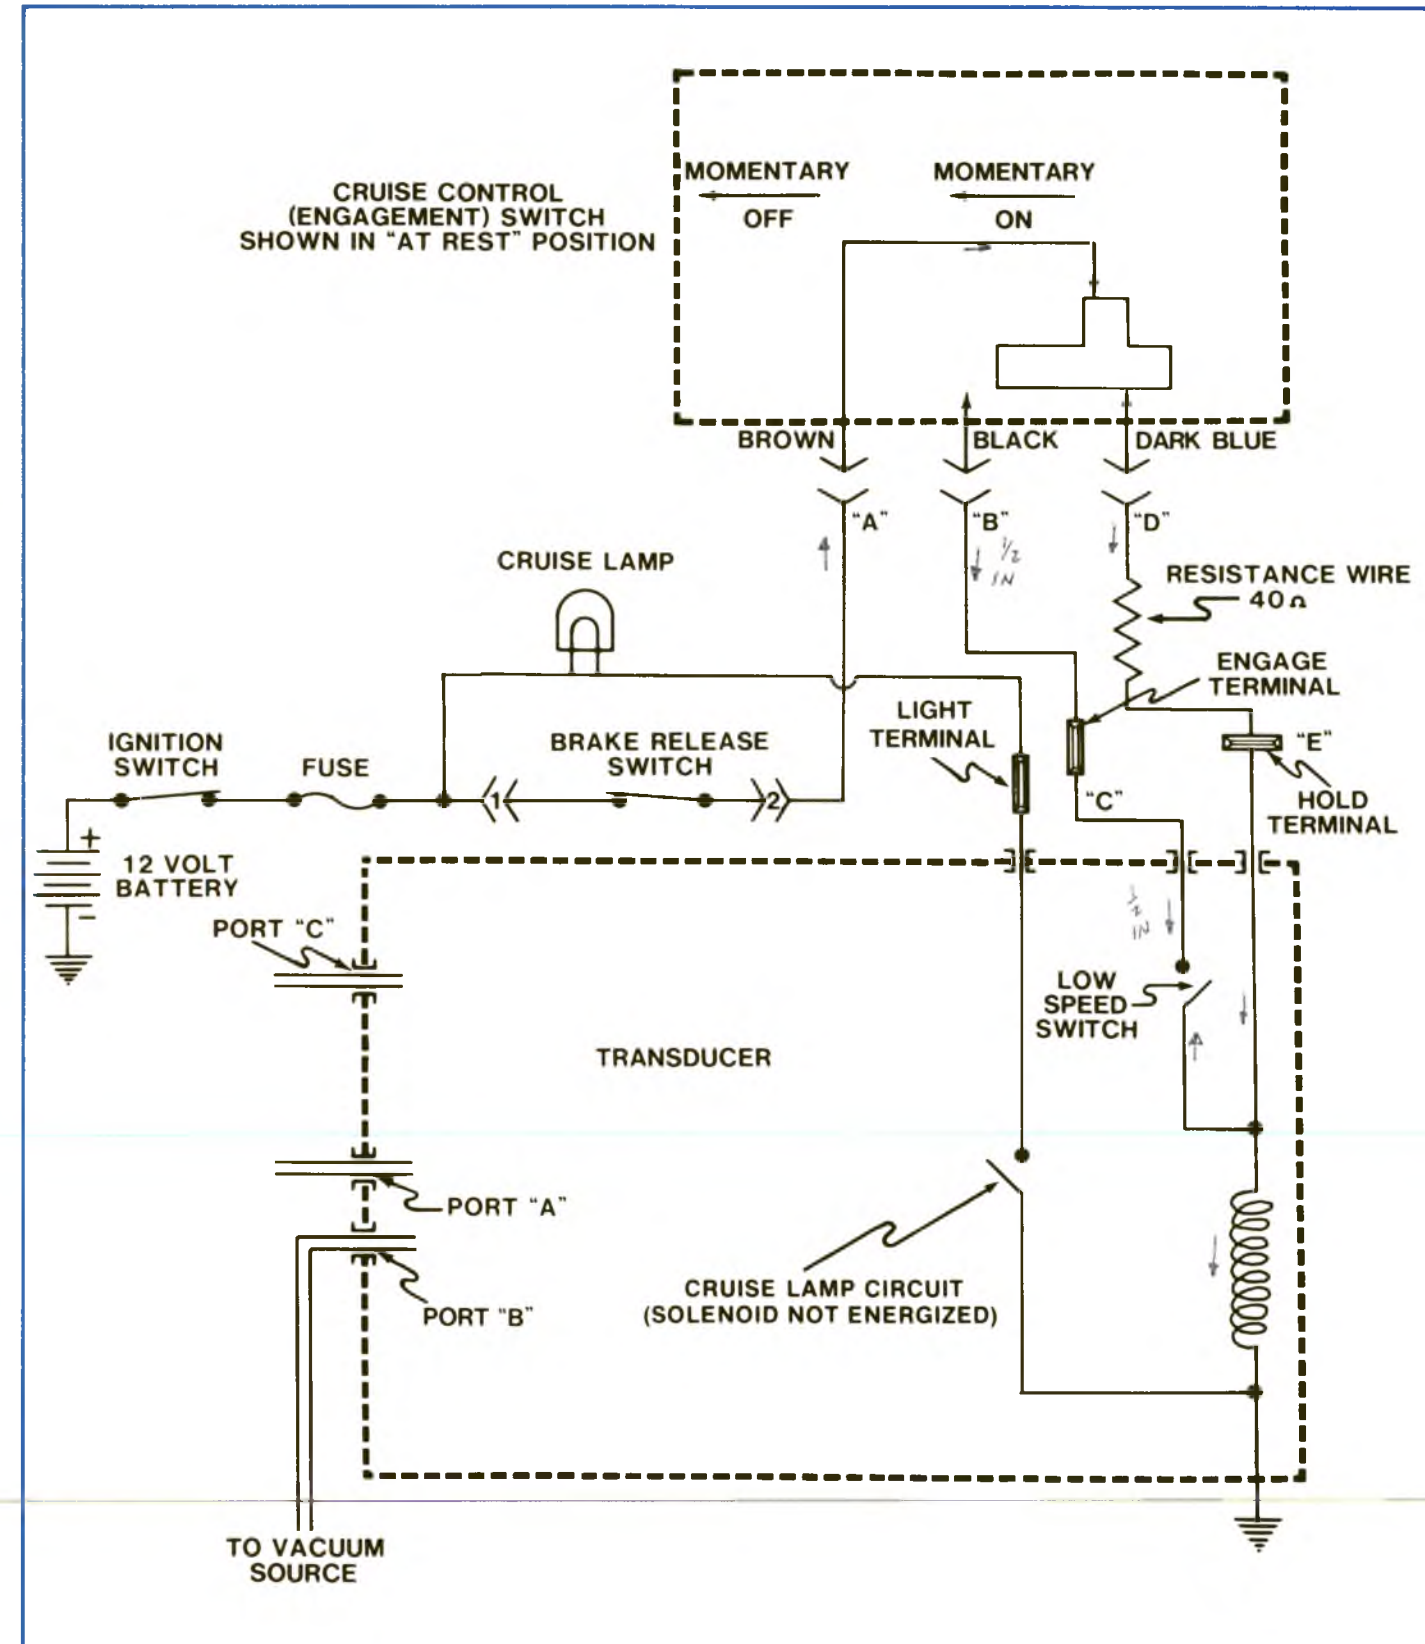

Figure 1-25, AC Cruisemaster system, Non-resume Type Electrical System Schematic.
- 6b. See fold-out figure 1-25. Disconnect the harness at POINT A. Connect a voltmeter to the "hot" side at POINT A.